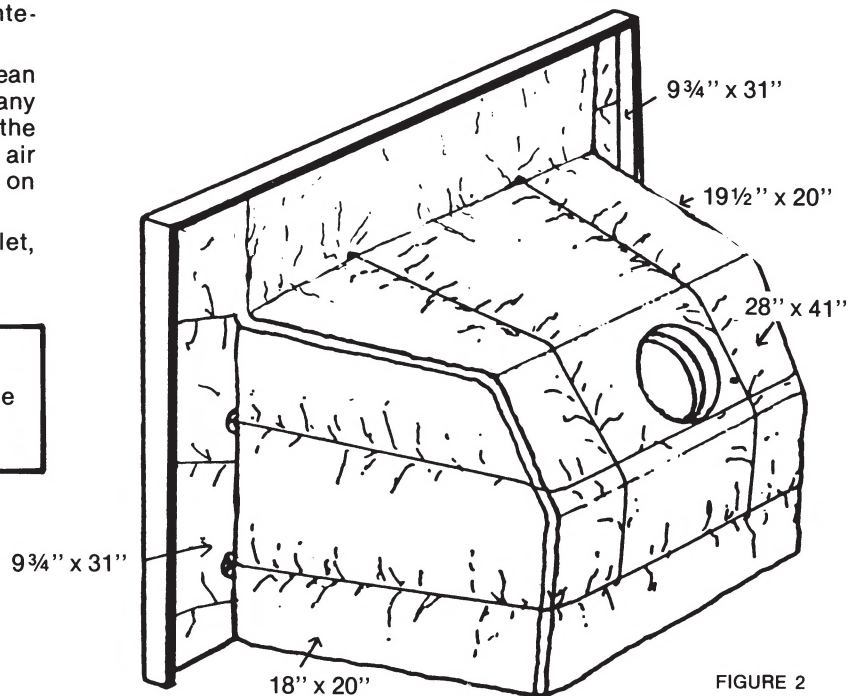

FIGURE 2
- 2c) Place one 28" x 41" piece of fiberglass insulation to cover the top and back of the firebox. (see figure 2)
2d) Secure fiberglass insulation in place by tying wire (supplied) to the wire retainers on the side of the firebox. Loop wires around back of the firebox and fasten it to the retainers on the opposite side. Secure wires to the top retainers on firebox and fasten it to lower horizontal wire on the back of the firebox. (see figure 2).
4c) Place the 9½" wide fiberglass insulation strips between the faceplate and the fireplace facing. (see figure 2)